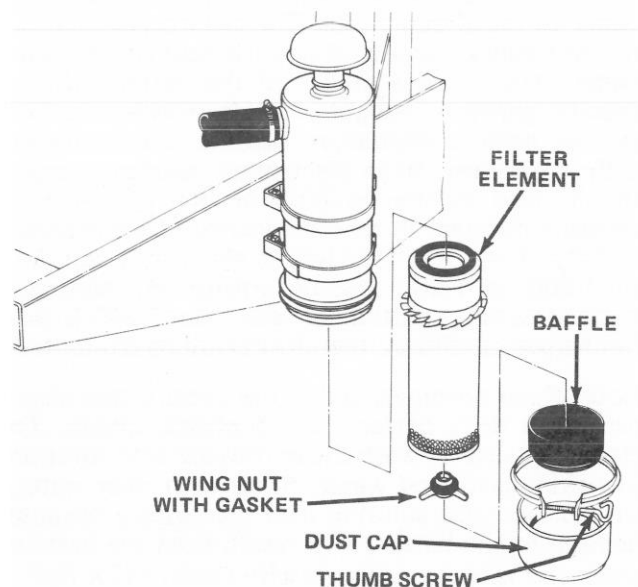

Figure 36
1. Loosen thumb screw until dust cup and baffle can be removed (Fig. 36). Separate dust cup and baffle (Fig. 36).
2. Remove wing nut w/gasket and slide filter element out of air cleaner body (Fig. 36).